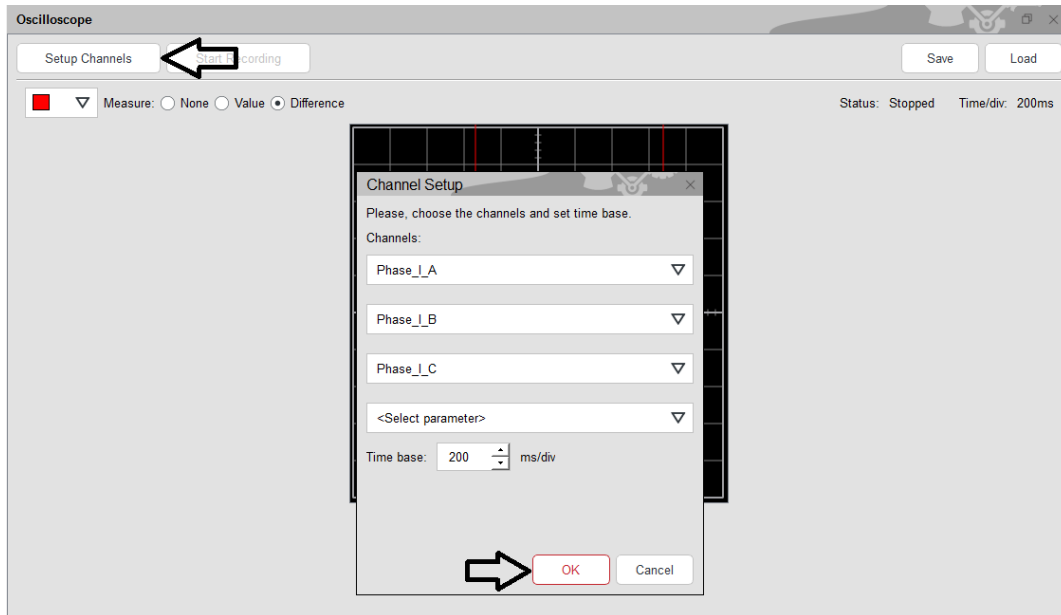

Figure 59: Setup Channels on Oscilloscope
- Select a time base and click *OK* as shown in Figure 59. This time-base applies to all channels